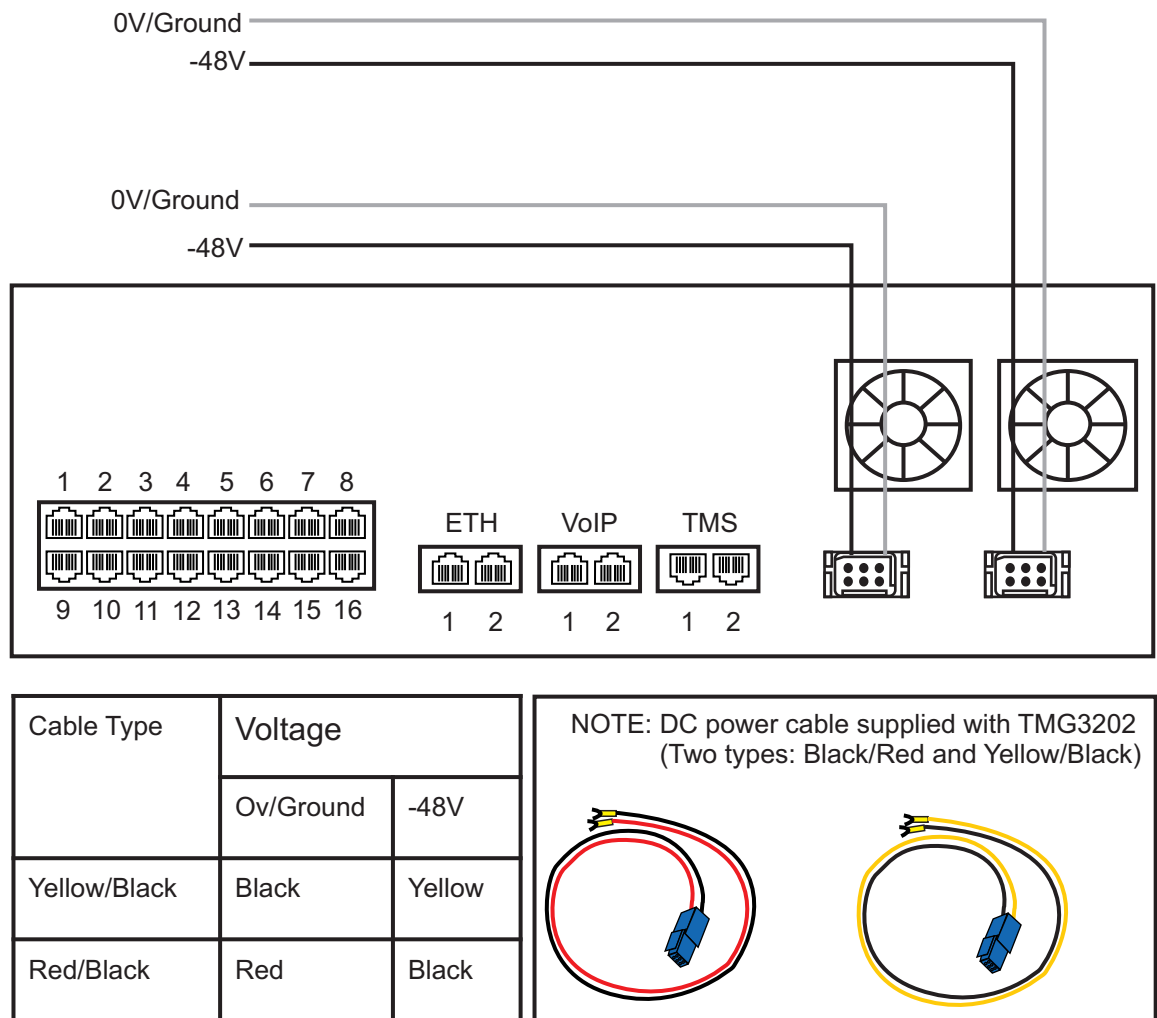

Figure 2.11 TMG3202 DC wiring diagram
1. Connect the DC cable supplied with the TMG3202, as shown in figure 2.11 on page 22, to the DC outlet at the rear of the TMG3202.
Note Two types of cable with different coloring are available. Refer to figure 2.11 on page 22 for the appropriate wiring information.
2. Connect one lead of the DC power cable to the positive terminal of the DC power source, as shown in figure 2.11 on page 22.